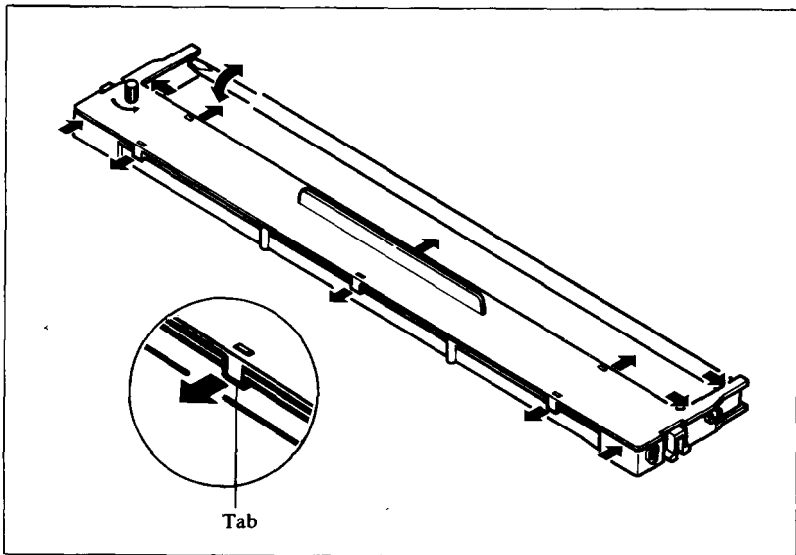

Figure 8-1. Unhook tabs to open the cartridge.
1. Place the cartridge on a flat surface, and use a flat-bladed screwdriver to unhook the tabs holding the two sections of the cartridge together. See Figure 8-1.